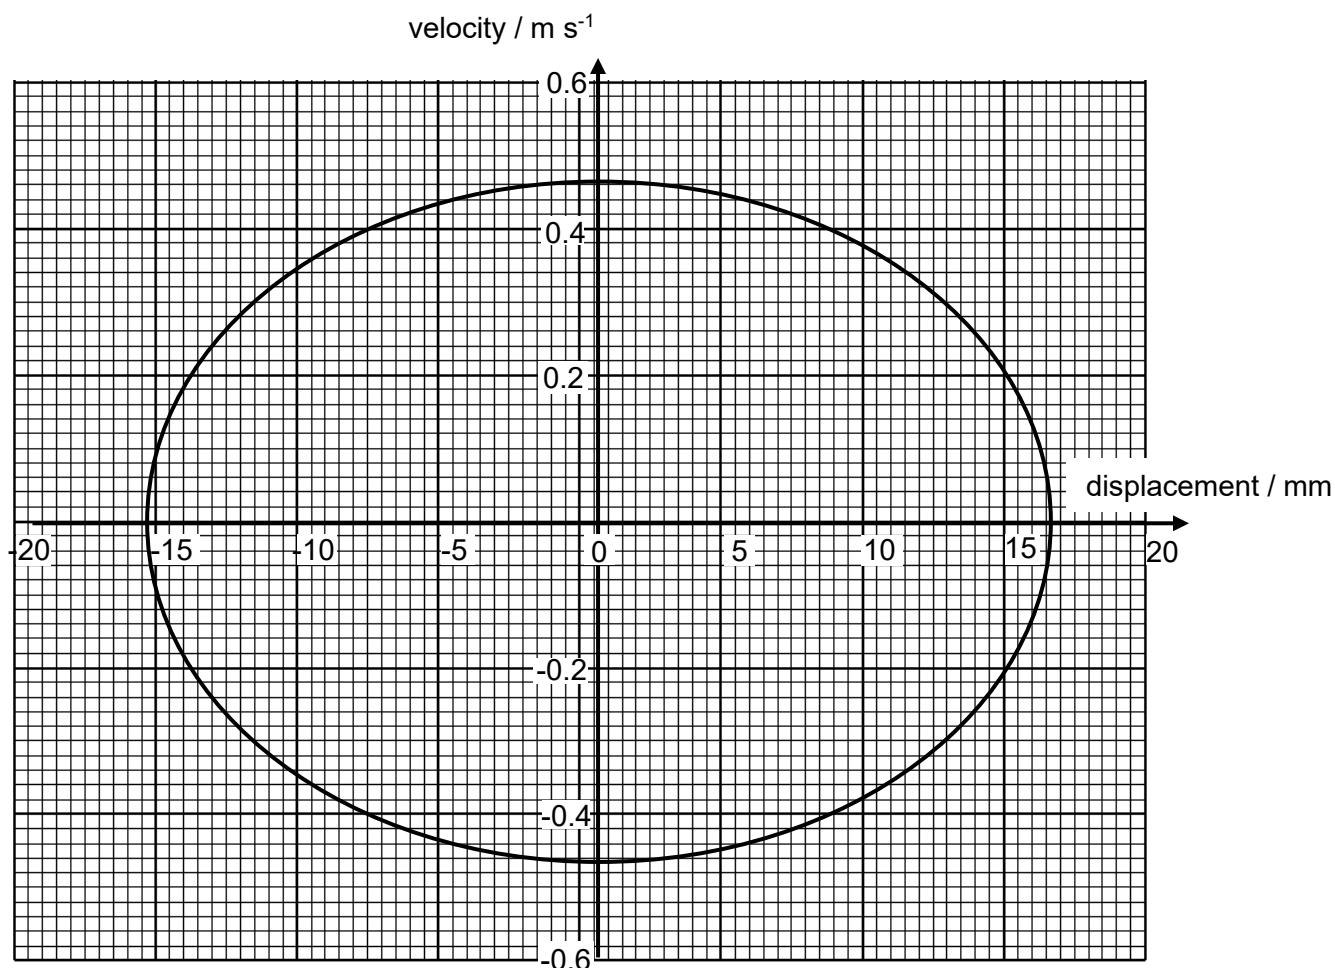

Fig. 4.2
Before switching on the variable-frequency oscillator, the metal cube was displaced by pulling it downwards and made to oscillate freely. A graph of its velocity against displacement is shown in Fig. 4.2.
- (a) Using Fig. 4.2, show that the natural frequency of the metal cube is 4.6 Hz.